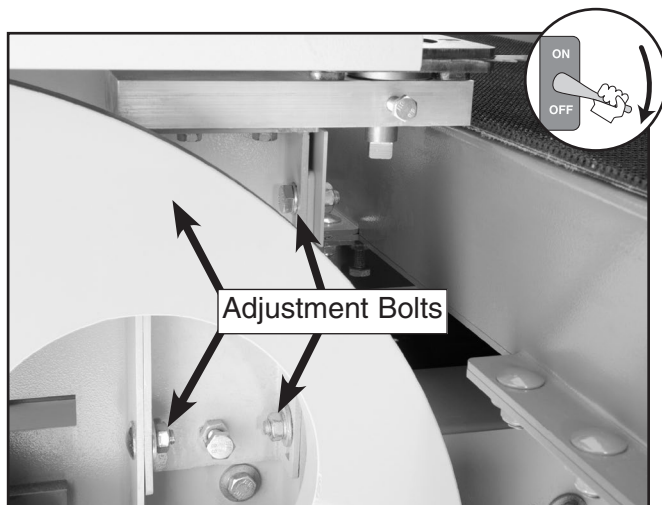

Figure 26. Vertical adjustment bolts. One adjustment bolt is not visible.
3. Loosen the vertical adjustment bolts shown in **Figure 26** and lower the guide block.